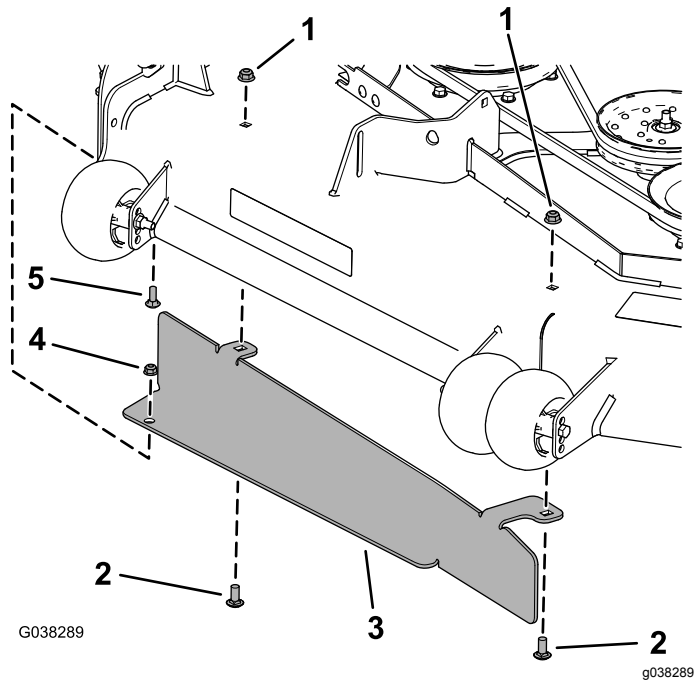

Figure 35
2. Install the baffle using the carriage bolt (5/16 x 7/8 inch), flange nut (5/16 inch), 2 carriage bolts (3/8 x 7/8 inch), and 2 flange nuts (3/8 inch) as shown in Figure 35.